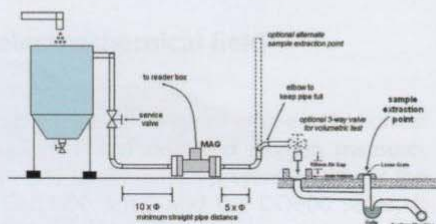

Figure 4: Typical tradewaste separator discharge installation.
- Provide an extraction point so that samples of the discharge liquid can be extracted (Figure 4).
- To avoid syphoning occurring, do not seal the pipe to the sewer (Figure 4).